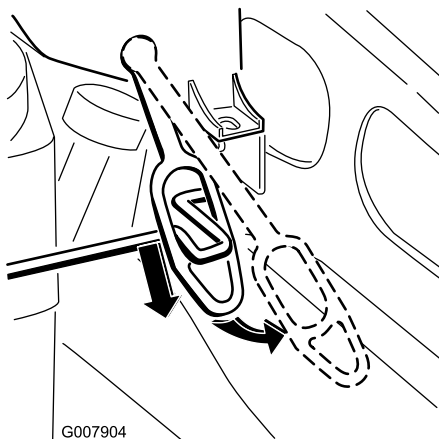

Figure 26
1. Pull the both of the engine cover retainer straps down and away from the forward facing bends in the cover rod (Figure 26).